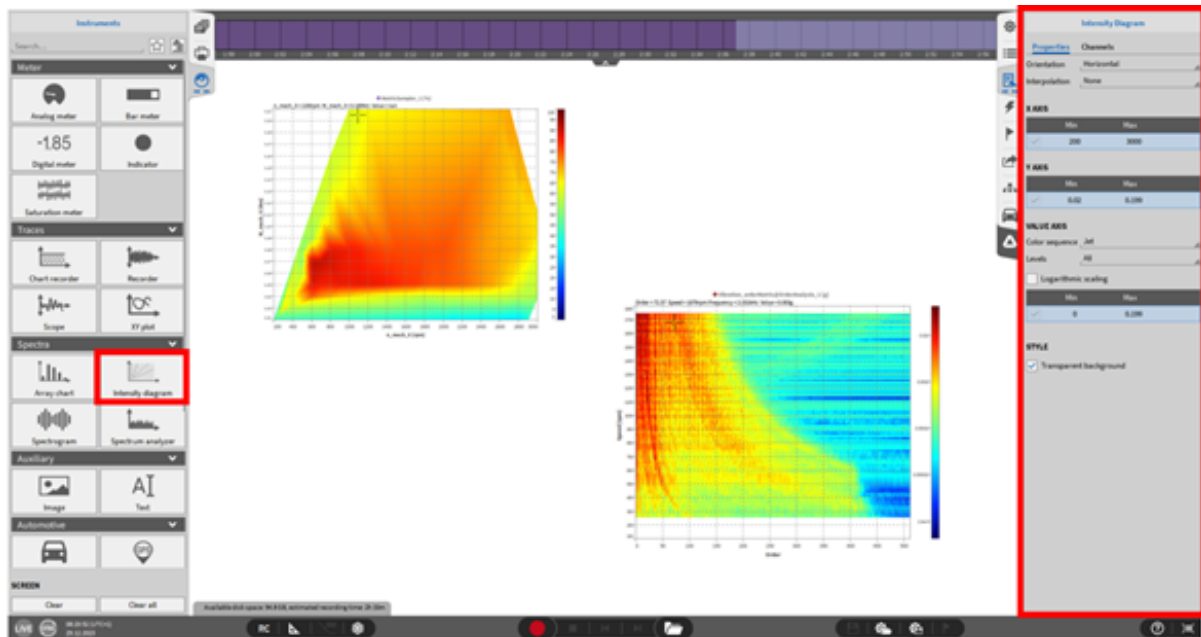

Fig. 8.97: Intensity Diagram instrument - overview
- Select levels to have a more defined grading in the matrix. Select the number of levels which should be defined with a black border. The matrix on the left in Fig. 8.97 shows no grading and the matrix on the right has a 10-level grading.